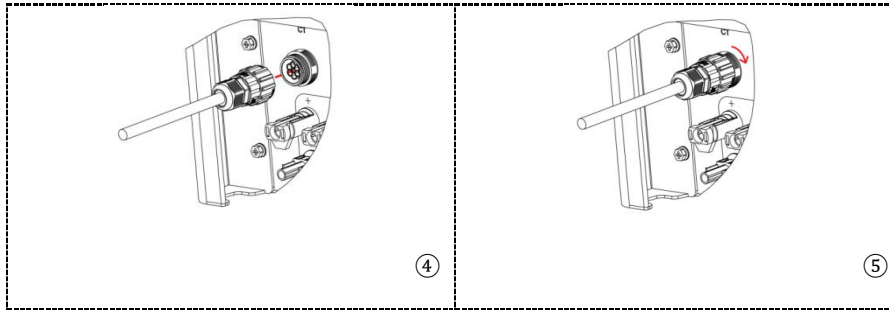

Figure 64 - CT interface
- 1) Position the wire terminals according to the colour sequence shown in Figure 64.